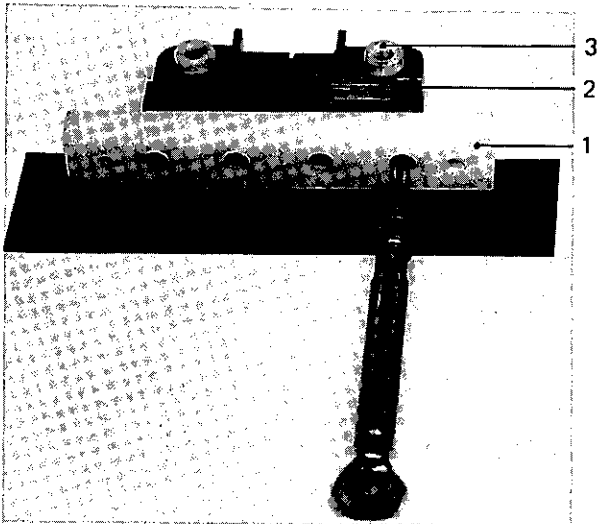
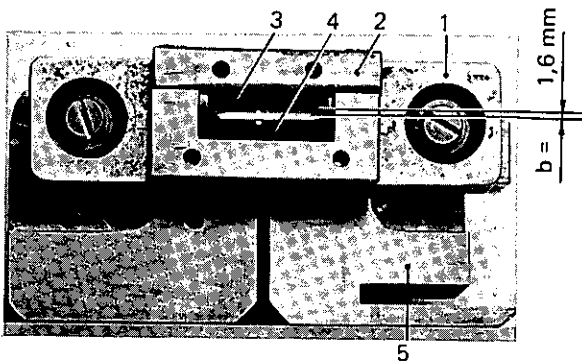

Fig. 5
Fig. 6 Cathode block
- a. Mount the two cathode holders (Fig. 5, item 2) on the flat insulator (Fig. 5, item 1) and screw in position with the two M3 cylindrical head screws.
- b. Fit the Wehnelt section (Fig. 6, item 1) with the two insulators (Fig. 5, item 3) to the cathode holder and tighten.
- e. Adjust the lower Wehnelt plate (Ta) (Fig. 6, item 1) approx. 0.3 mm from the cathode.
- f. Screw the upper Wehnelt (Fig. 6, item 2) slacky in position with the two M2 vertical head screws (coat with Molykote).
- h. Check the cathode, it should be located symmetrically in the gap $b = 1.6$ mm (Fig. 6).